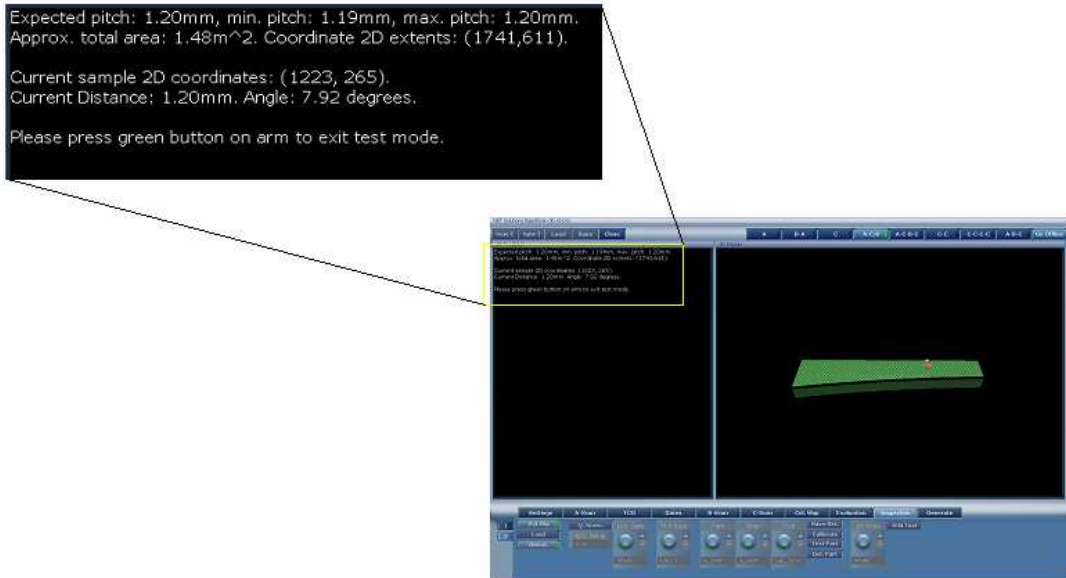

Figure 79: Test Part Mode for CAD Data
4. Move the probe over difference regions of the part and ensure the distance and angle measurements displayed are small when the probe is on the surface of the part and is correctly aligned, see Figure 79. In addition, the RS3D system will show the position of the probe relative to the part using an arrow; this should closely match the reality.